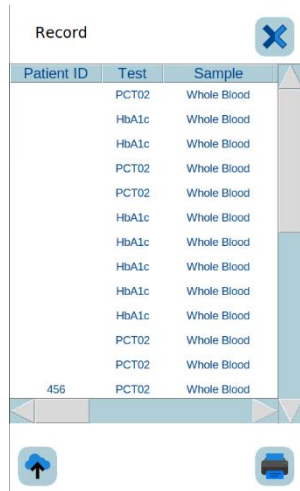

Fig. 4 Record Storage
1. Press on file storage from the home screen, a list of records shall appear with serial no. and patient id given to that record (Fig. 4).